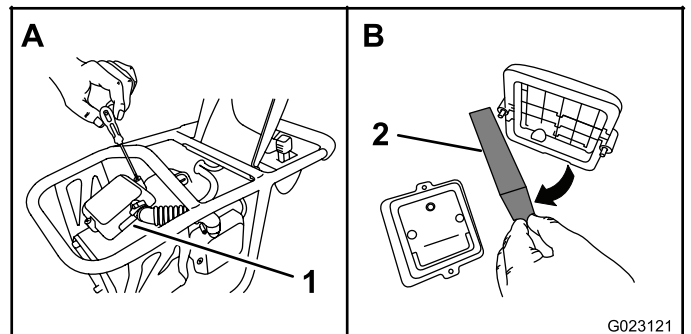

Figure 16
2. Remove the screws that secure the cover to the prefilter housing (Figure 16), and remove the cover.